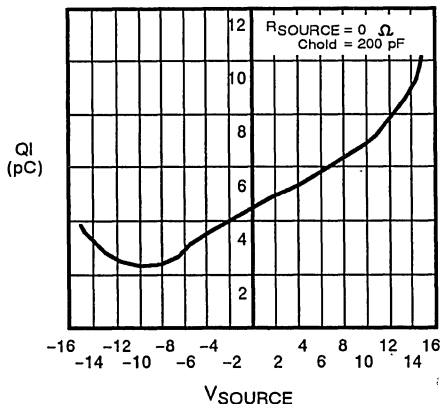

Figure 9. Charge Injection vs. Analog Signal
2. Another parameter of importance, especially in such applications as sample and hold, is that of charge injection. The graph shown in Figure 9 shows a typical curve for this parameter. In fact all PLUS 40 devices have compensation on the output switches to reduce switching errors due to charge injection.